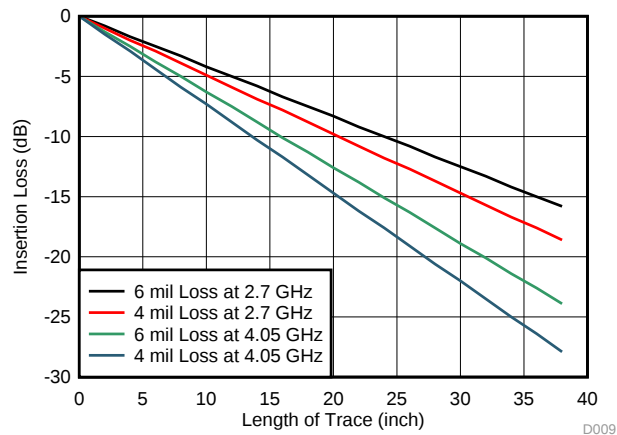

图 20. Insertion Loss of FR4 PCB Traces
- Determine the loss profile on the DisplayPort input (A) and output (B) channels. See 图 20 for 6 mil trace insertion loss.
- Determine the loss profile on the DP input (C) and output (D) channels and cables. See 图 20 for 6 mil trace insertion loss.